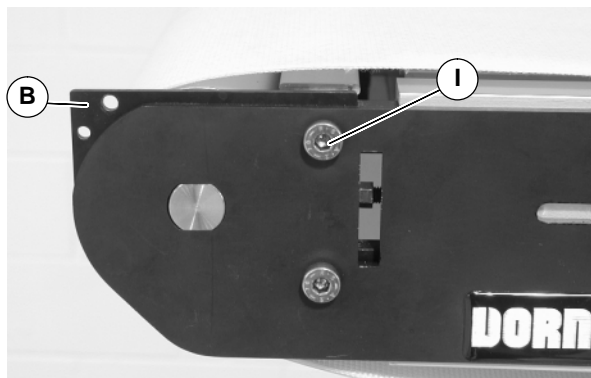

Figure 6
5. Replace with new spacer plates (B of Figure 6). Insert screw (I) hand tight